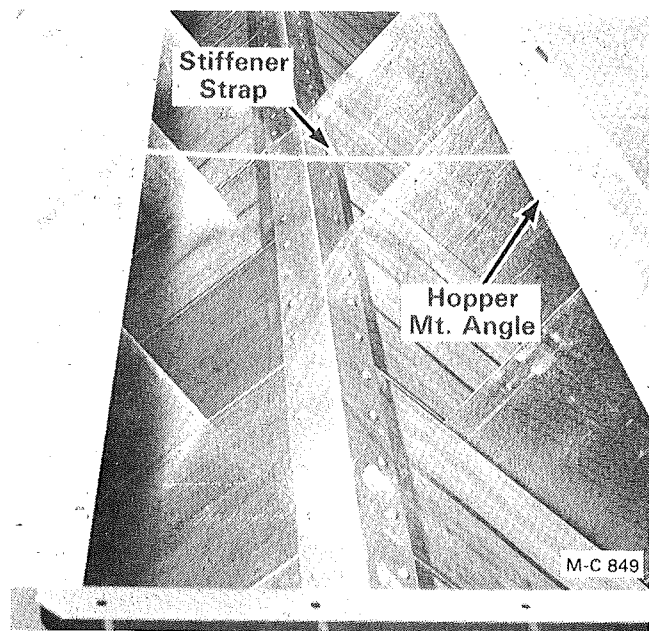

Figure 5
NOTE: The Hopper can be assembled on the dryer screen section or on the ground and then lifted onto the dryer screen section. If hopper is assembled on the dryer screen section, be sure to place a 28" (71cm) Stiffener Strap #1292947 across the center of the screen section top connecting both mount angles that are bolted to the top of the outer screens. See Figure 5.
1. Place a 28" (71cm) Stiffener Strap #1292947 across the center of the screen section top connecting the mount angles that are bolted to the top of the outer screens. See Figure 5.
2. Attach cables to the (4) Lifting Bars bolted to the hopper sides. Use spreader bars between the cables and lift hopper assembly onto the top of the screen section. Check position of the Stiffener Strap so it lines up with holes in hopper sides and hopper mount angles. Hopper Assembly weighs about 180 lbs. (82 kgs).
1. Place a stiffener strap #1292947 28" (71cm) long across the center of each set of hopper mount angles bolted to the top of the outer screens. A CF520/620/720 dryer requires (2) straps and a CF820 dryer (3). See Figure 5.